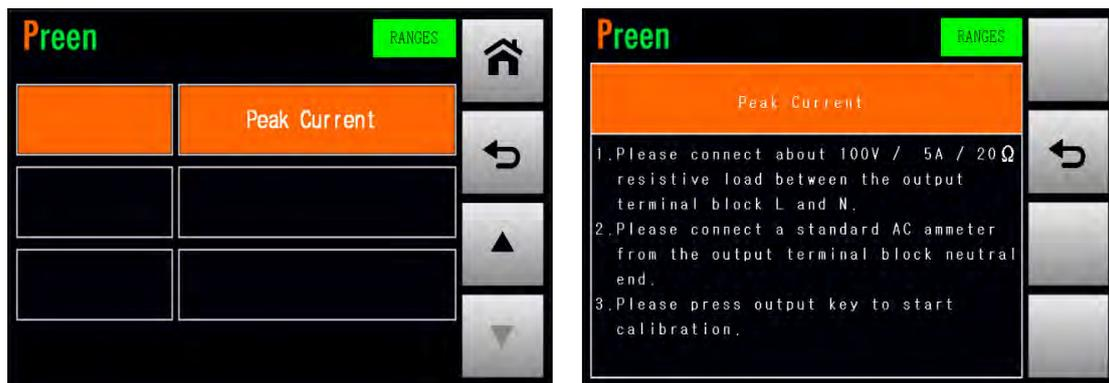

Figure 6.17 Enter into the page which calibrates the peak current
1. Press the item Peak Current repeatedly to enter into the page which calibrates the peak current (refer to Figure 6.17).